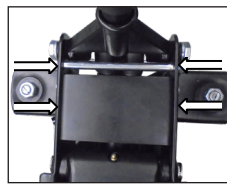

fig 3.
- Remove the 4 screws fixing the pump cover to the jack and remove the pump cover (fig.3).